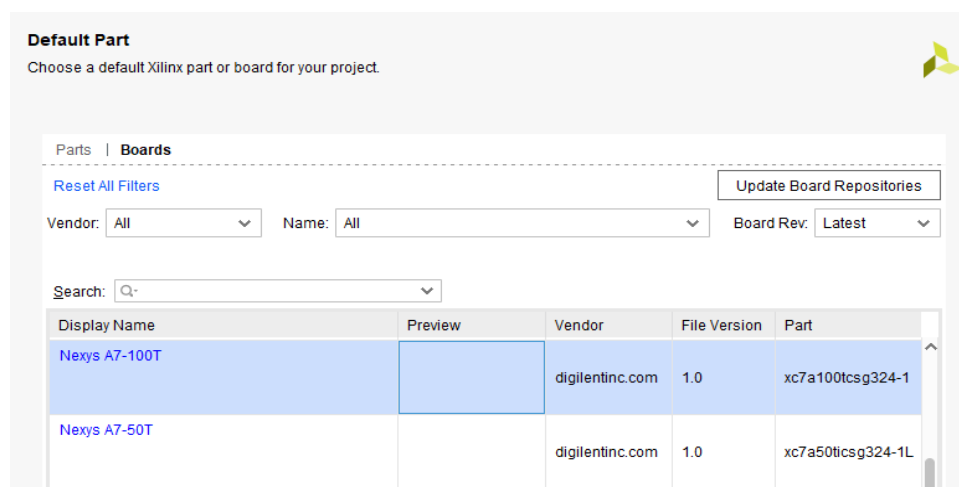

FIGURE 1.5: Choosing Board
4. In the next window select the *Boards* tab and it will display a list of boards. Select your board Nexys A7 100T Click *Next* to Continue.(Figure 1.5)